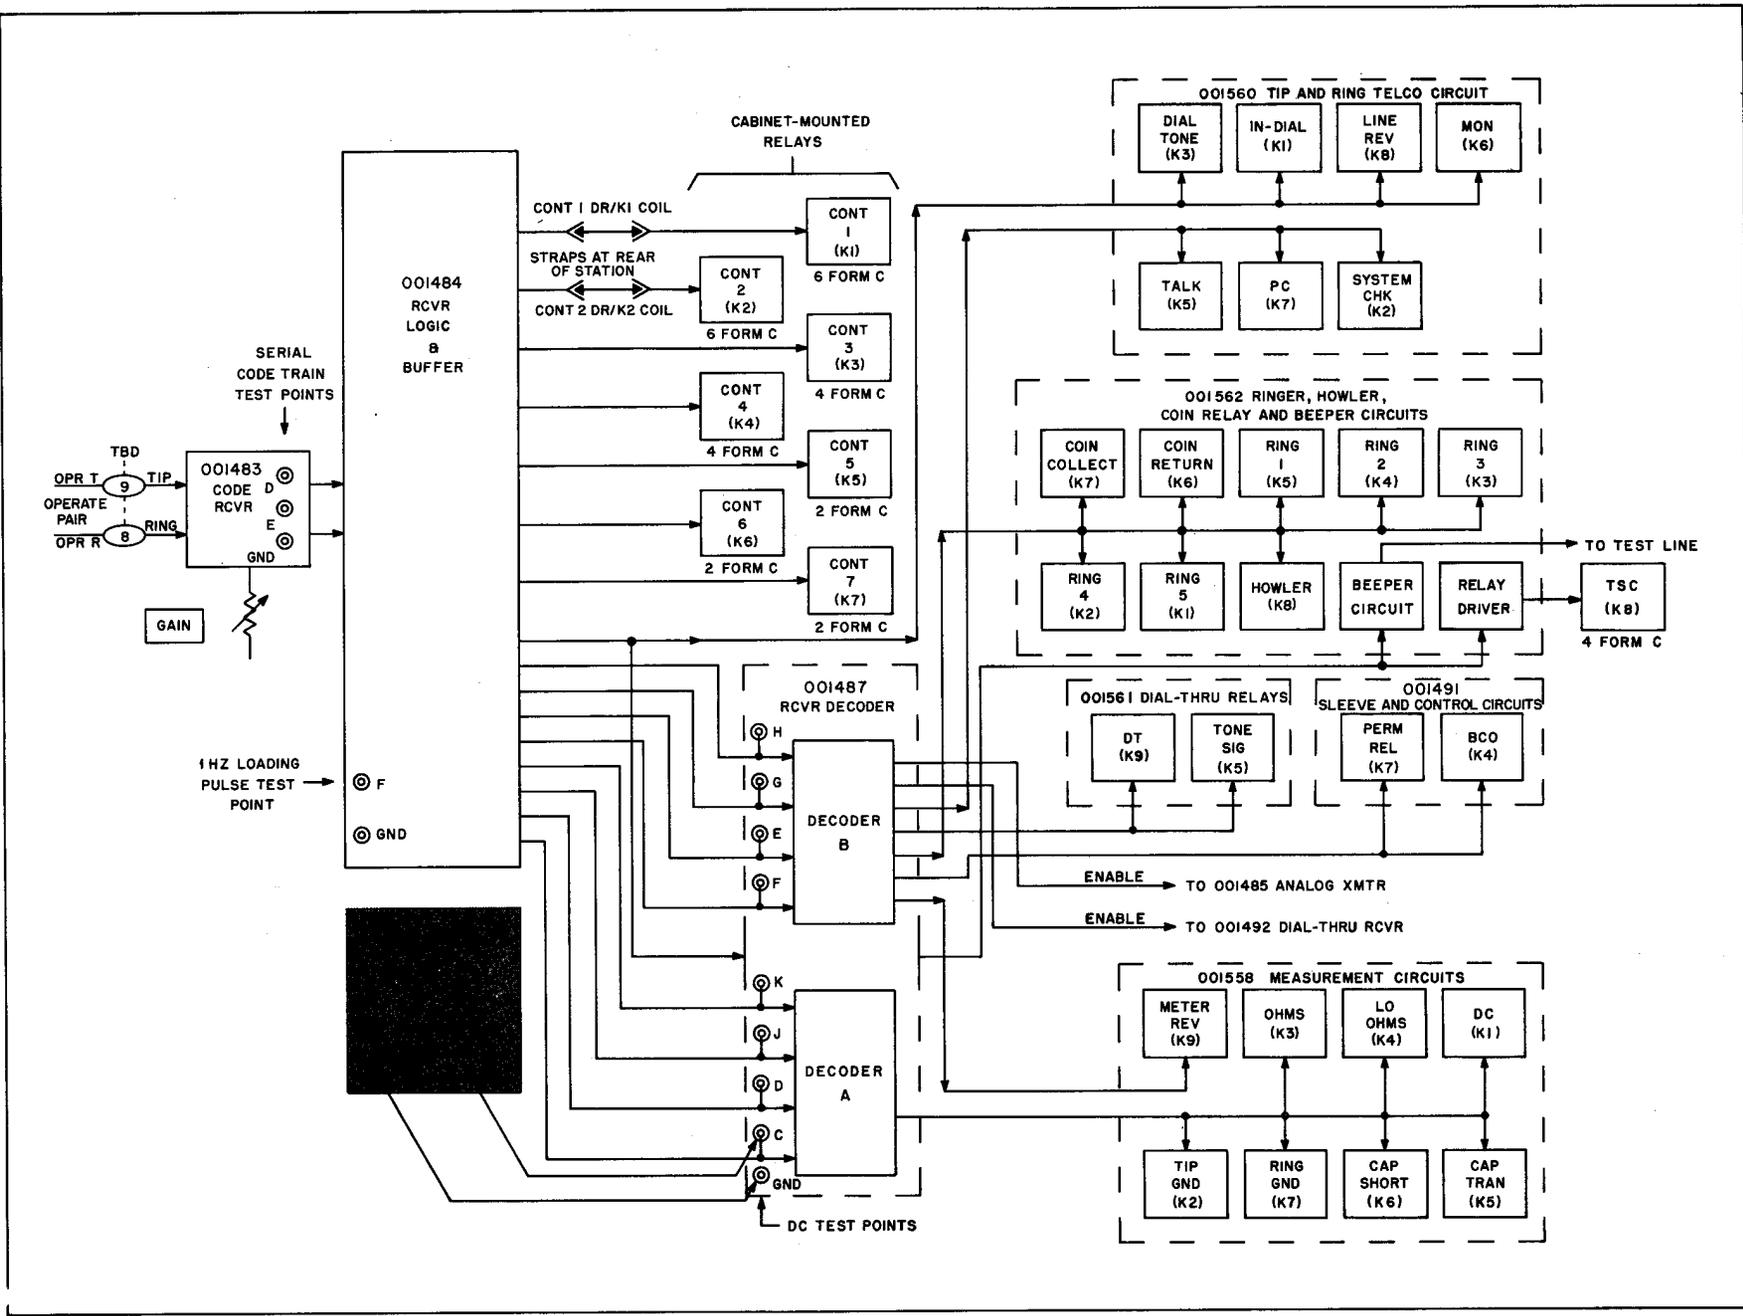

Figure 15 - Block Diagram of Components Comprising Remote Station's Code Channel
3.12 CODE CHANNEL - Figure 15 is a block diagram of the circuits that comprise the remote station's code channel, and the relays they drive. The procedure for troubleshooting this section is as follows:
4. With the buffer loading normally and with a pushbutton other than CONT 1-7 having been operated, further analysis should be made to determine the exact cause of the trouble - whether it be a relay, a relay driver or a faulty code. This can best be done by using a 20,000 ohm/volt d-c voltmeter to check the coding at the d-c test points on Card 001487 while referring to Figure 15 and to Table 4. Each measurement must be referenced to GND. (See the typical voltmeter connection in the figure.) A reading of +0.2 to +0.8 VDC represents